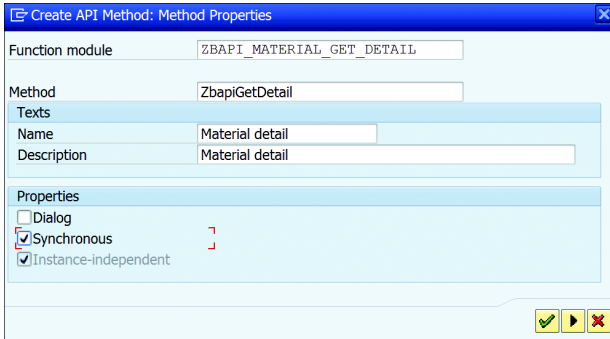

Figure 19.19 Method Properties
- On the next screen (see Figure 19.19), verify suggested properties for the method and make any necessary changes. The DIALOG checkbox should be selected if the function module generates any dialogs that require user actions. The SYNCHRONOUS checkbox should be selected if the method is a synchronous method; if the checkbox isn't selected, the method will be an asynchronous method.